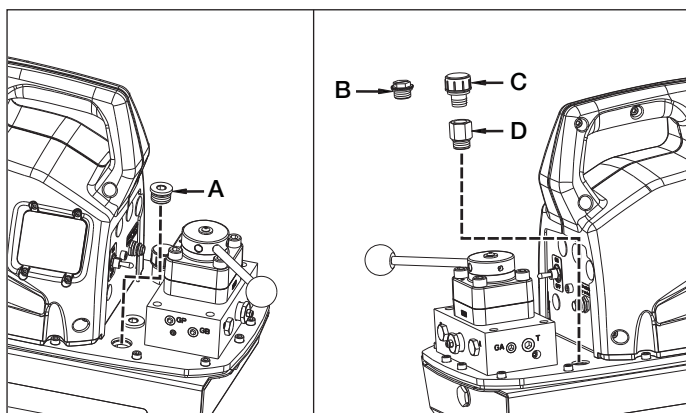
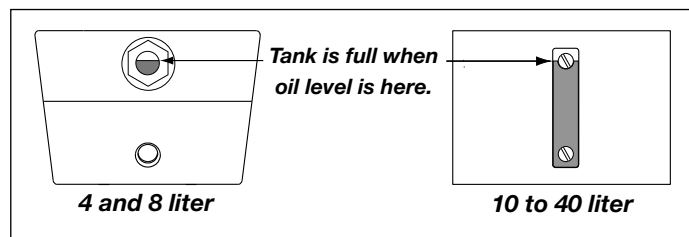

Figure 2, Oil Fill Plug and Reservoir Air Breather
Figure 4, Sight Glass
4.1 Oil Fill Plug and Reservoir Air Breather (See Figure 2)
Check the pump oil level prior to start-up. If oil level is low, remove the oil fill plug (A) from the cover plate (see Figure 2) and add oil as required. The reservoir is full when the oil level is as shown in Figure 4.